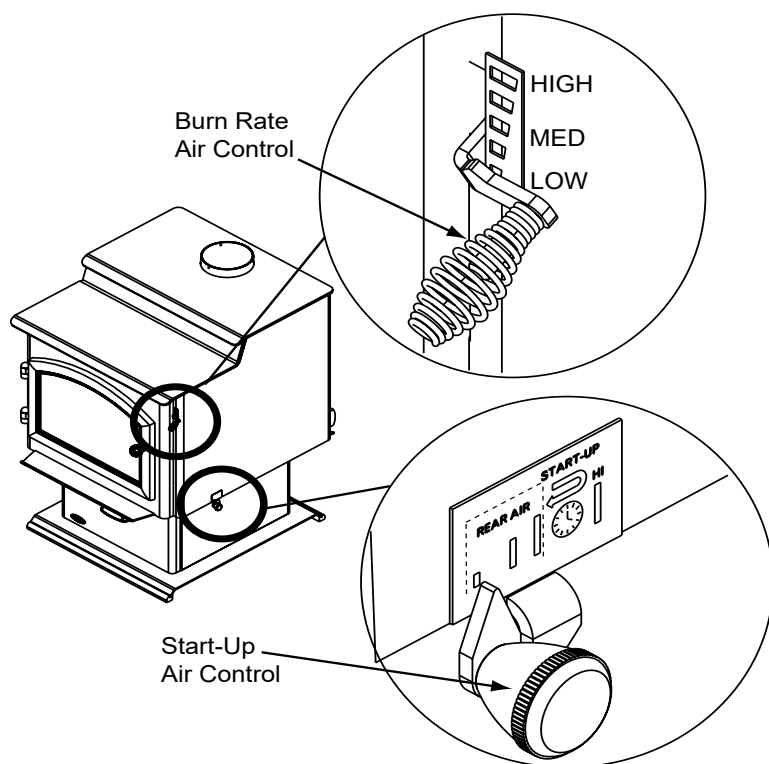
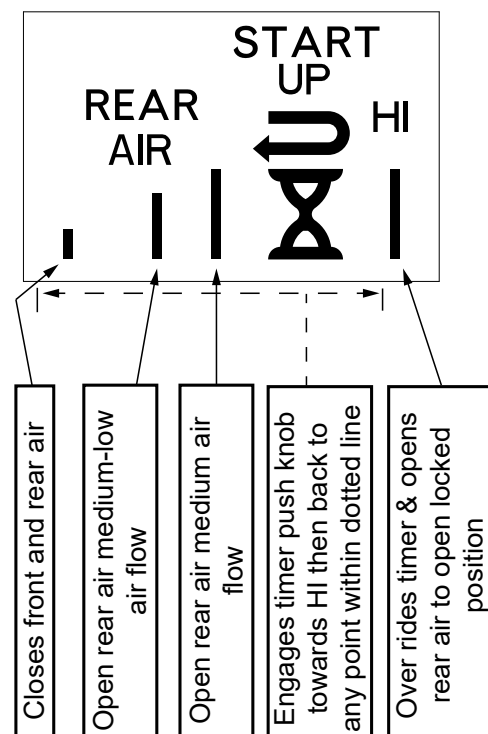

Figure 10.1
Figure 10.2
The next stage of burning, the secondary stage, is the period when the wood gives off flammable gases which burn above the fuel with bright flames. During this stage of burning it is very important that the flames be maintained and not allowed to go out. This will ensure the cleanest possible fire. If the flames tend to go out, it is set too low for your burning conditions. The air control located at the upper right hand corner is used to adjust for burn rates. This is called the Burn Rate Air Control (**Figure 10.1**).
This air supply enters at the upper front of the firebox, near the top of the glass door. This preheated air supplies the necessary fresh oxygen to mix with the unburned gases, helping to create second, third and fourth combustions. This air is regulated by the Burn Rate Air Control. When the control is moved all the way up it is on the High setting and when moved all the way down it is on the Low setting (**Figure 10.1**).
To engage the Automatic Combustion Control (ACC) timer system push the lever towards the back of the appliance to the "HI" position, then pull forwards towards the front of the appliance until the knob stops. The timer will slowly close in about 25 minutes. Use this feature when reloading fuel or if you want more air supplied to the fire (**Figure 10.2**).
- Then activate the ACC timer system by pushing the knob all the way back toward the appliance to "HI" then pull forwards towards the front of the appliance until the knob stops (**Figure 10.1 and Figure 10.2 on page 10**).